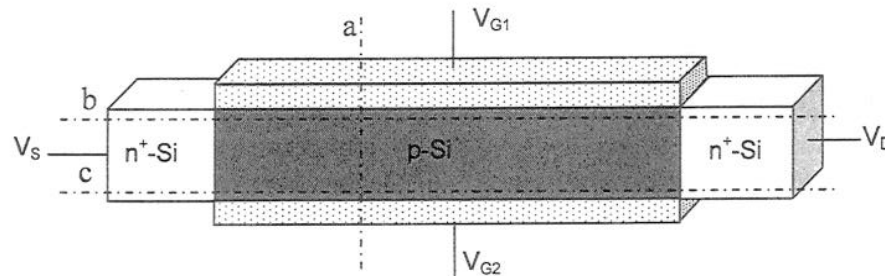

Figure 5.1: Schematic diagram of a double gated MOSFET.
5. Fig. 5.1 shows a schematic diagram of a double gated MOSFET. The source is at the left and the drain at the right of the structure. The gates are independently gated with gate voltages V_{G1} and V_{G2} . The gate oxide thickness is the same for both gates. The gate metal is the same for both gates and the workfunction of the metal is equal to the workfunction of the p-Si. The p-type Si body is not depleted when $V_{GS1} = V_{GS2} = 0$ V. V_S is grounded.